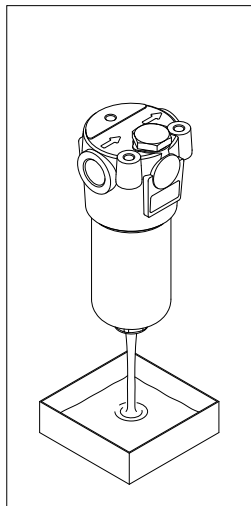

fig. 14
- (Fig. 14) Drain the operating fluid from the bottom of the bowl into the collection vessel